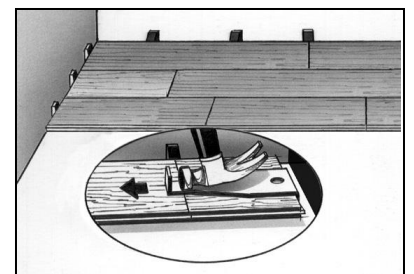

Fig. 16
7. Use a pull bar when necessary to ensure joints are tight (**Fig. 16**).